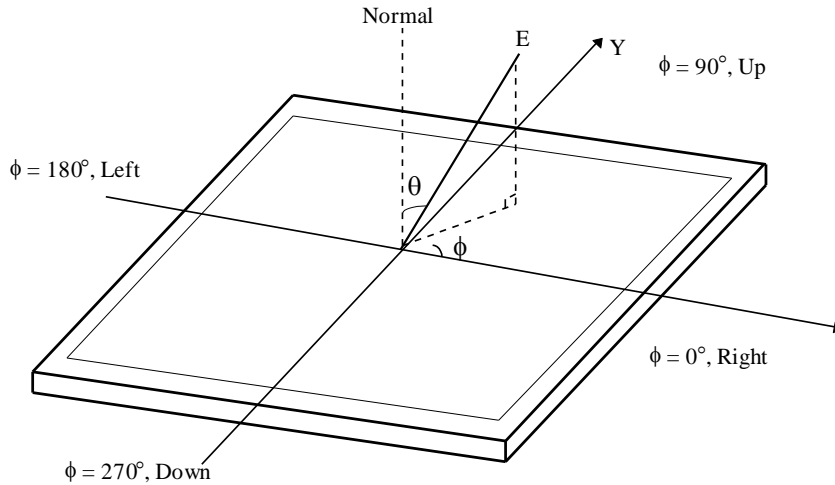

FIG. 5 Viewing angle
7. Viewing angle is the angle at which the contrast ratio is greater than 10. The angles are determined for the horizontal or x axis and the vertical or y axis with respect to the z axis which is normal to the LCD surface. For more information see FIG 5.